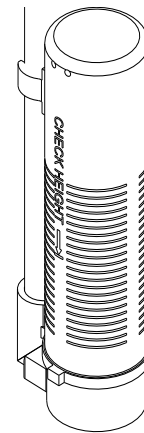

Figure 1 Residential Air Check Valve
9. Place approximately 1" (25 mm) of water above the grid plate. If a grid is not utilized, fill to the top of the air check (Figure 1) in the salt tank. Do not add salt to the brine tank at this time.